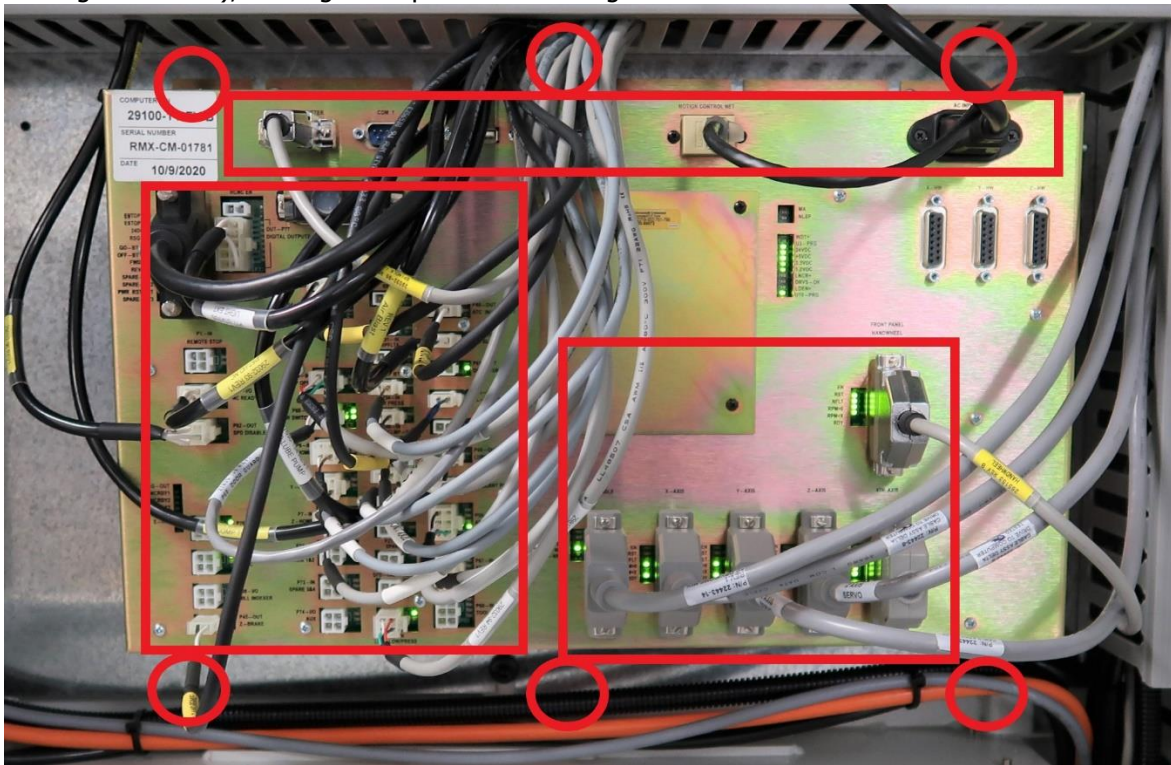

Figure 6.1.5.4 - Computer Module Replacement
2. Start with the power cord in the upper right-hand corner and unplug all the cables connected to the Computer Module as shown in figure 6.1.5.4.
3. Remove the Computer Module from the Electrical Cabinet by removing the 6 screws (circled in figure 6.1.5.4), 3 along the top and three along the bottom of the enclosure.
5. Connect the cables to the Computer Module as shown in figure 6.1.5.4. Each cable is marked with its location on the enclosure, be sure to double check the correct wiring before attaching the power cord.